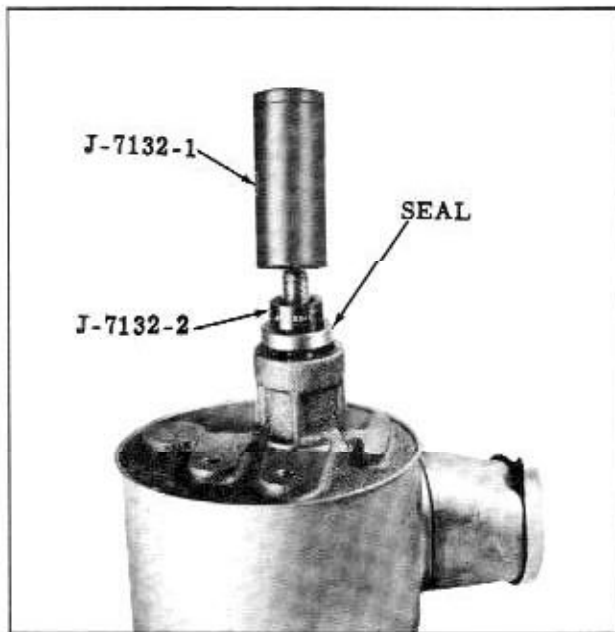

Fig. 4-23 Installing Seal
5. Slide Tool J-7132-1 (with seal) over drive shaft, then using Tool J-7132-2, drive seal into pump body. (Fig. 4-23)